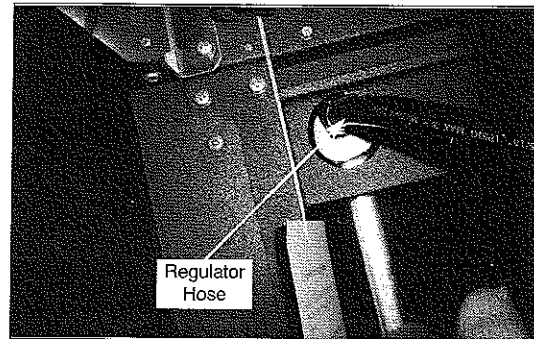

Fig 2
2. Use a 3/4" wrench to disconnect the other hose from the manifold. (See Fig. 2)